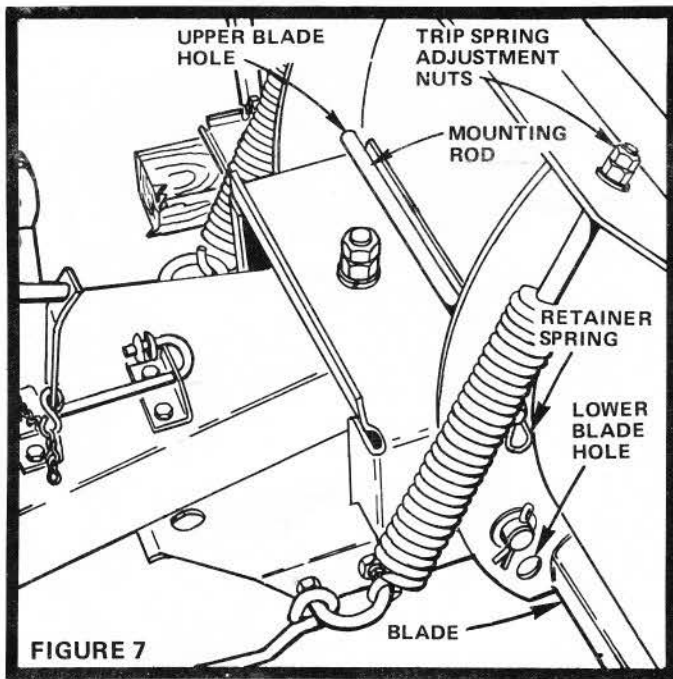

FIGURE 7
Trip Springs have been adjusted at the factory to provide only a slight tension which is all that is normally necessary. To change spring tension, adjust the nuts at the upper end of the Trip Springs (Fig. 7).
- a. When moving snow or other light material, place the Mounting Rod in the Lower Blade Hole (Fig. 7). This frees the Blade to spring trip and return if a heavy obstacle is encountered.
- b. When heavier material must be moved place the Mounting Rod in the Upper Blade Hole (Fig. 7). This places the blade in rigid operating position.